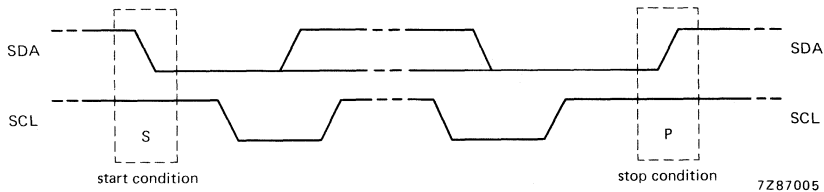

Fig. 4 Definition of start and stop conditions.
**Start and stop conditions** (see Fig. 4)